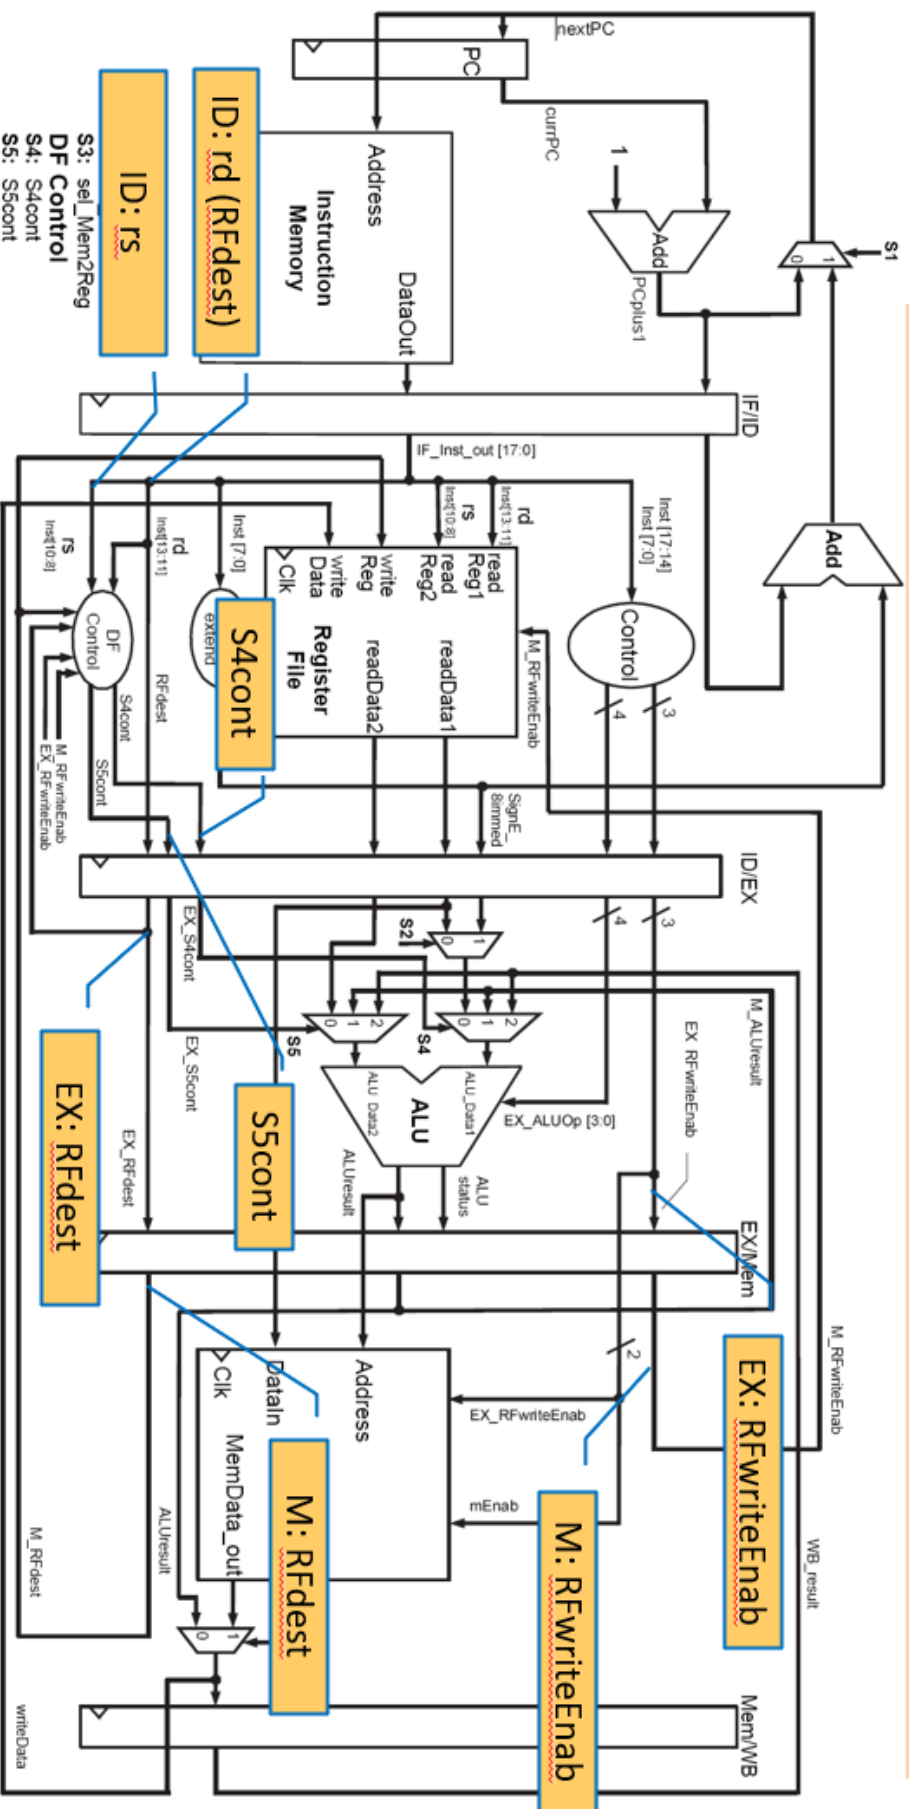

Figure 2: Slide from module 8: uP Case Study
7. Implement data forwarding by converting the pseudocode example (shown in Figure 2) to Verilog. Place your Verilog code inside the *DF_control* module just below the comment: “// You will need to comment out the above two statements and implement data forwarding control here”. The variable names in the *DF_control* module port list must be strictly adhered to in your code. Correct any errors.